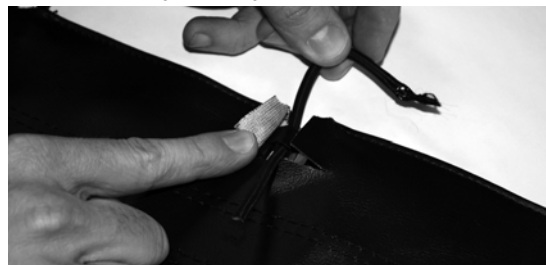

Figure 6
- ⑤ Thread one end of the Bungee Loop Replacement down through one of the plastic hole openings (see Fig. 6).